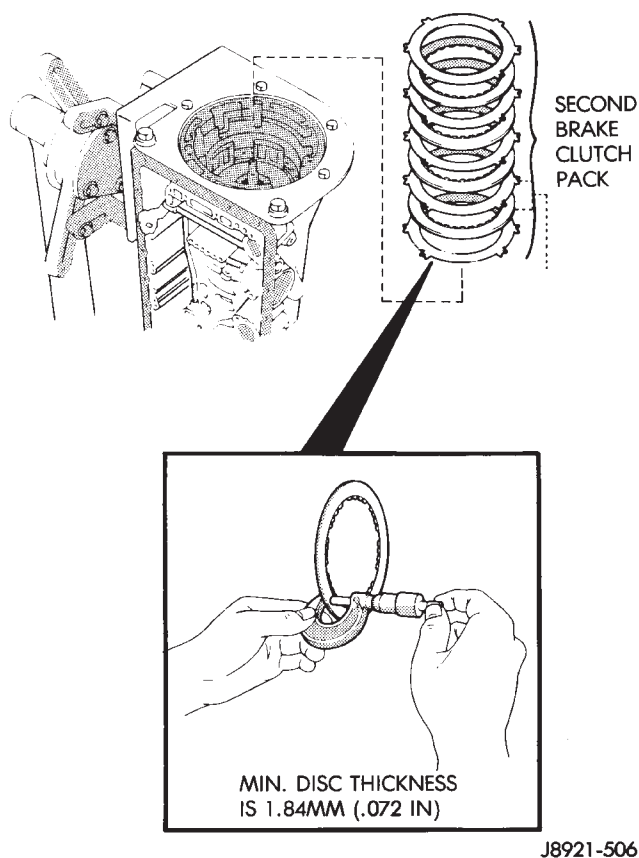

Fig. 40 Remove/Measure Second Brake Clutch Disc Thickness
(49) Remove second brake clutch pack (Fig. 40). Measure disc thickness with micrometer. Minimum thickness should be 1.84 mm (0.0724 in.). Replace discs if not within specifications.